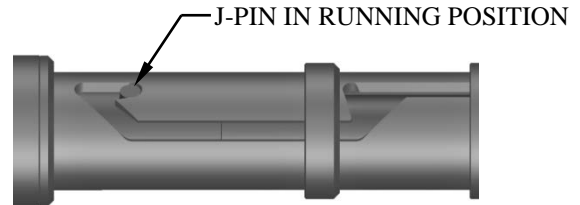

Fig. 7
L-2.19) Position J-pin in running position in J-slot of J-body (20) (Fig. 7).